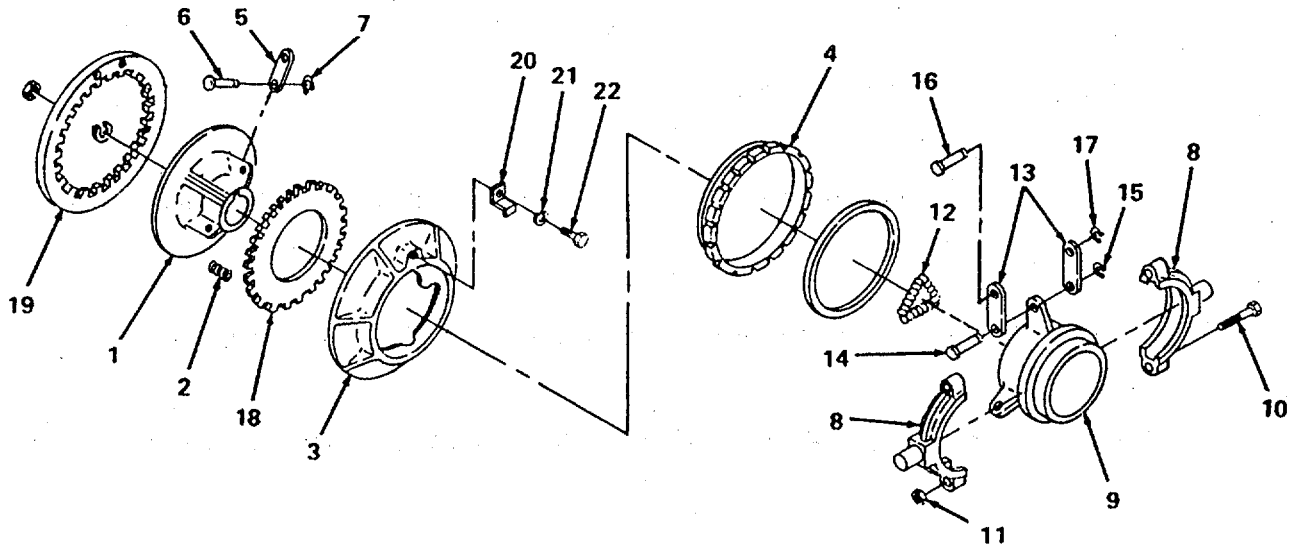

Figure 6-7. Clutch Assembly.
(1) Assemble clutch assembly.
(a) Position clutch body (1, figure 6-7) on flat surface with release lever bosses facing up and install three pressure plate separator springs (2).